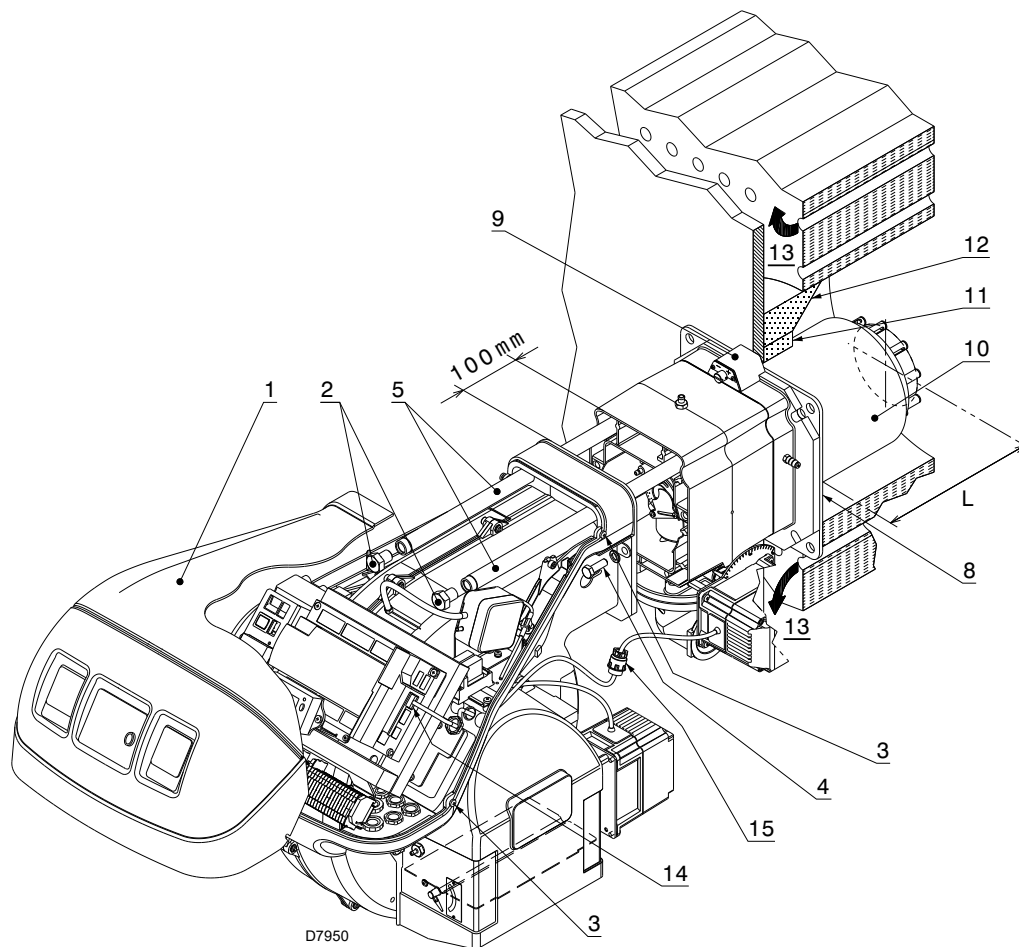

Fig. 16
For boilers with front flue passes 13)(Fig. 16 at page 22), a protection in refractory material 11) must be inserted between the boiler refractory 12) and the blast tube 10).
Separate the combustion head from the rest of the burner, as in Fig. 16; proceed as follows:
- reassemble the burner on the guides 3) at about 100 mm from the pipe coupling 4) - burner in the position shown in Fig. 16 at page 22;
- connect the plug of the servomotor 14)(Fig. 16) and tighten the cable grommet 15);